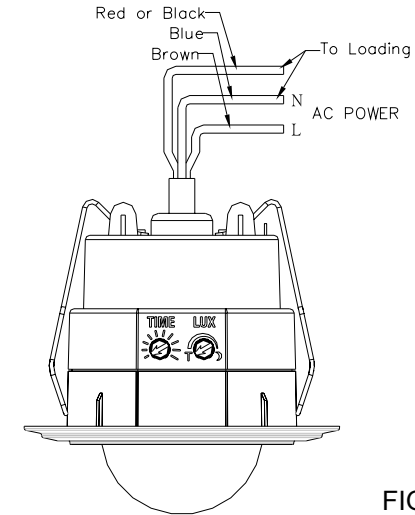

FIGURE 5
- (1) Switch off the power source or wall switch.
- (2) Strip approximately 6-8mm insulating part of the wires from the terminal block.
- (3) The connection of all power cable is via a junction box. (Not supplied). The power cable of "LS" and "N" is to be connected to LS and N of the light fitting. (FIGURE 5)